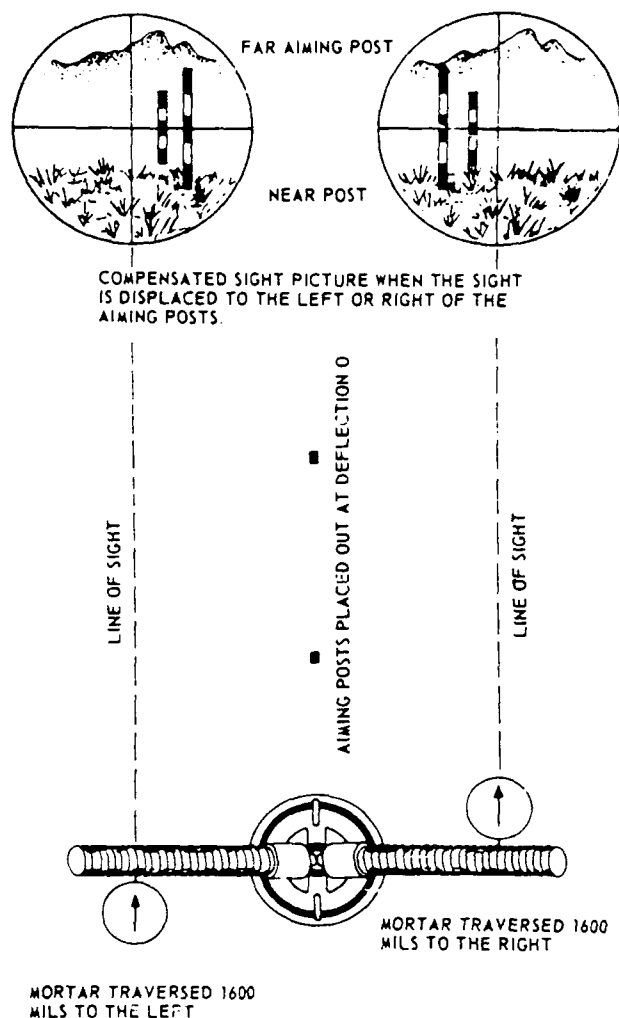

Figure 6-17.—Compensated sight picture.
passing through the aiming posts; or (2) a lateral (left or right) displacement of the baseplate caused by the shock of firing, which also moves the sight out of the plane of the aiming post. When both the far post and the near post are visible, it is called a **COMPENSATED** sight picture (fig. 6-17).
To use the compensated sight picture correctly, the gunner must lay the vertical line of the sight reticle so the left edge of the far aiming post is placed exactly midway between the left edge of the near aiming post and the vertical line of the sight reticle. This corrects for displacement of the sight (fig. 6-17).